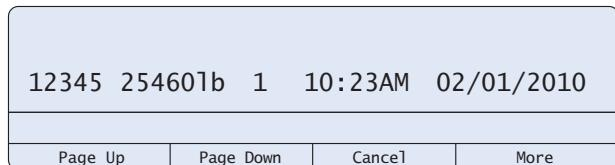

Figure 7-2. Truck Register Display Showing Modes 1-6
The Truck Regs display is shown by pressing the **Truck Regs** softkey in weighing mode. The display contains an alphabetical list of stored truck IDs, weigh-in weights (in primary units), and the time and date of the weigh-in transaction (see Figure 7-2).
2. If truck ID is known, press the **Weigh Out** softkey, enter the ID, and press the **Enter** key. If ID is not known, press the **Truck Regs** softkey to view list of stored IDs (see Figure 7-2 on page 58). Scroll to the correct truck ID, note the ID number, then press the **Cancel** softkey to return to the weight display. From the weight display, press **Weigh Out**, key in the ID, then press the **Enter** key.